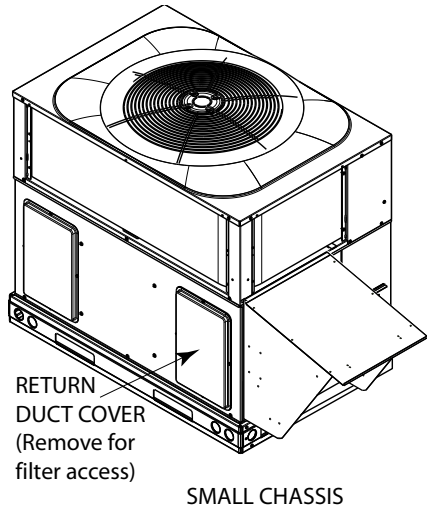

Fig. 8 – Small Chassis Filter Access
**Small Chassis (See Fig. 8)**